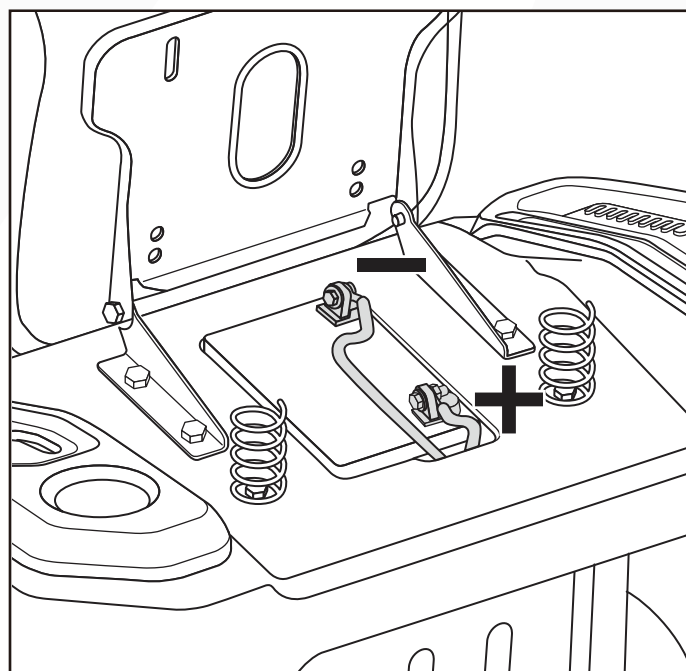

Fig. 31
2. Disconnect the NEGATIVE (-) cables from the battery first. (Fig. 31)